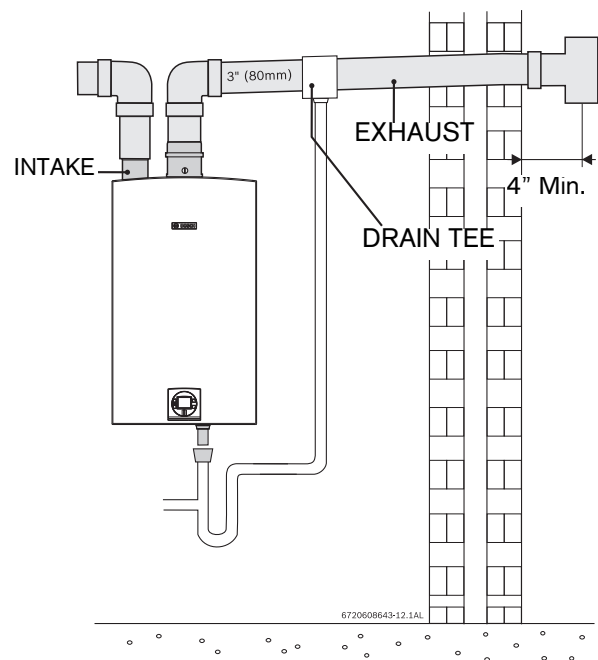

Fig. 14 Horizontal venting system (single pipe penetration\*)
- Attach the combustion air inlet accessory to the top of the unit Fig. 14 (position 2) using the 3 screws and gasket provided, and install 3" air intake pipe over the accessory.